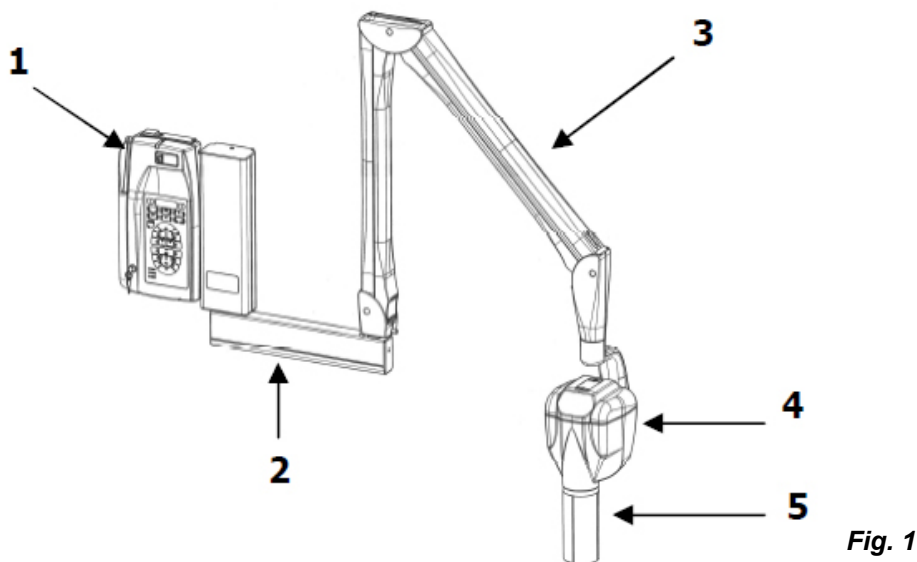

Fig. 1
**Owandy-RX DC** radiographic system (Fig. 1) consists of: